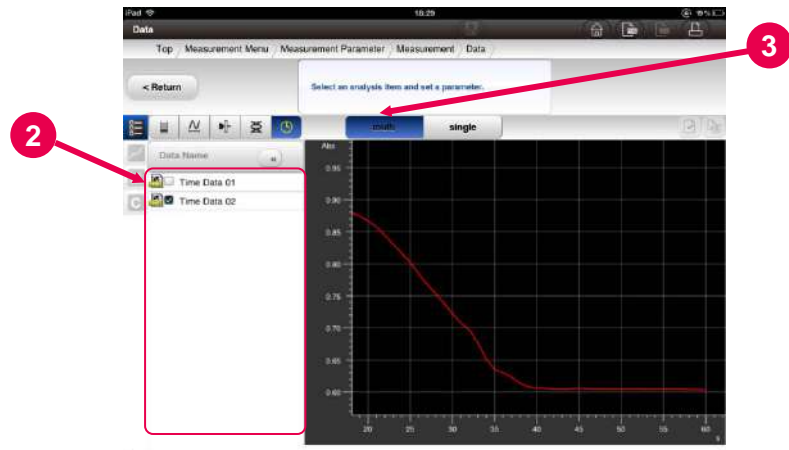

Fig. 5-69 Time scan Data Check Window
- (1) Select spectral data files to be displayed in a stack using the steps in 5.1.1 “Reading Saved Data” and move to the Data Check window (Fig. 5-69).